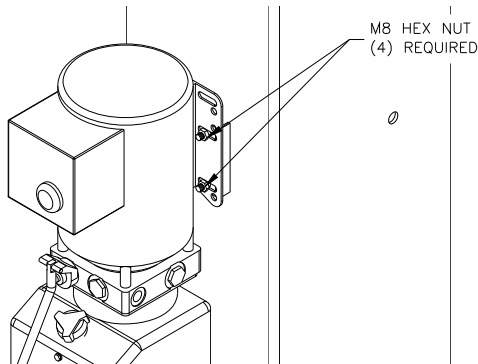

Fig 3 – Power Unit Mounting
- 11) Mount Power Unit to power column as shown in **Fig 3**. The (4) mounting hardware nuts are pre-installed on power unit mounting bracket.